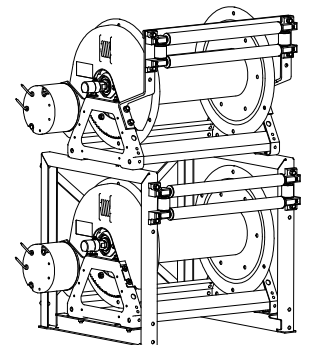

FIGURE 2: Stacked reels shown
- Rollers can be added directly to the stacking frames for the bottom reel (see **FIGURE 2**). If rollers are desired for the top reel, the roller brackets to be mounted on the reel must be ordered with the rollers. Alternatively, the rollers could be specified to be installed with the top reel from the factory when ordering.